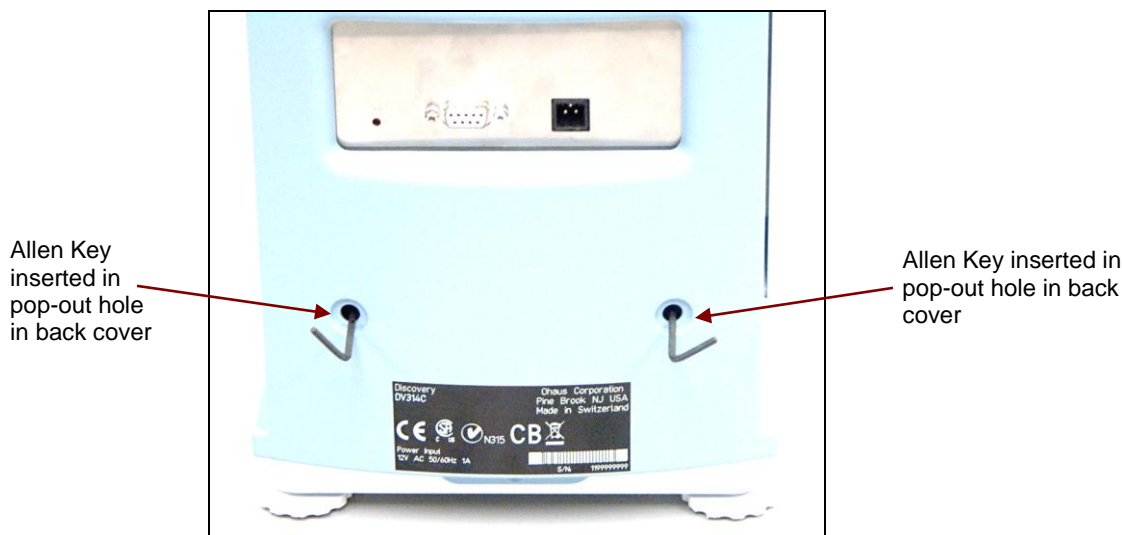

Figure 4-2. Holes in back cover must be popped out to insert Allen Keys.
1. Pop out the hole plugs and insert both Allen Keys from the Service Toolset as shown in Figure 4-2.